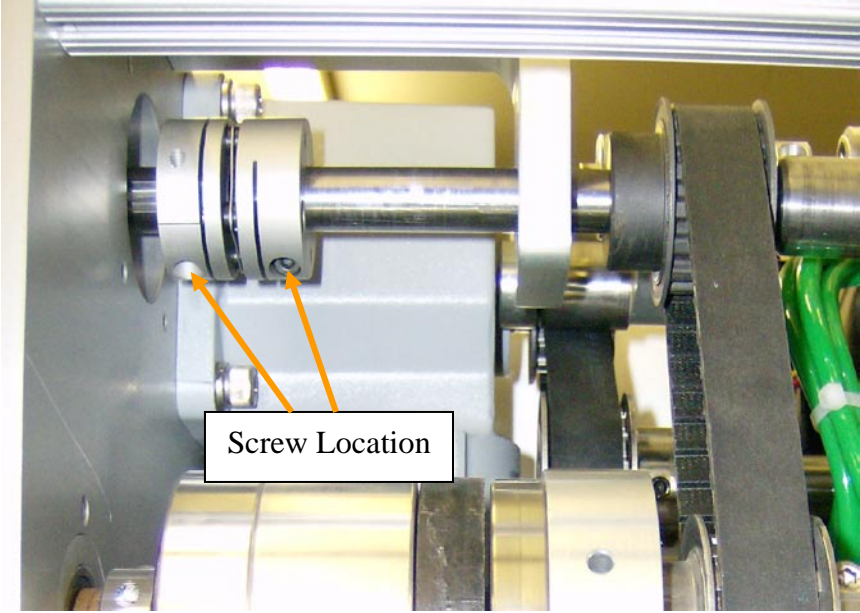

Figure O1: Flex-Coupler
2. Check Flex-Coupler (between servomotor and Plate Cylinder shaft-See Figure O1) for loose socket-head cap screws (2).